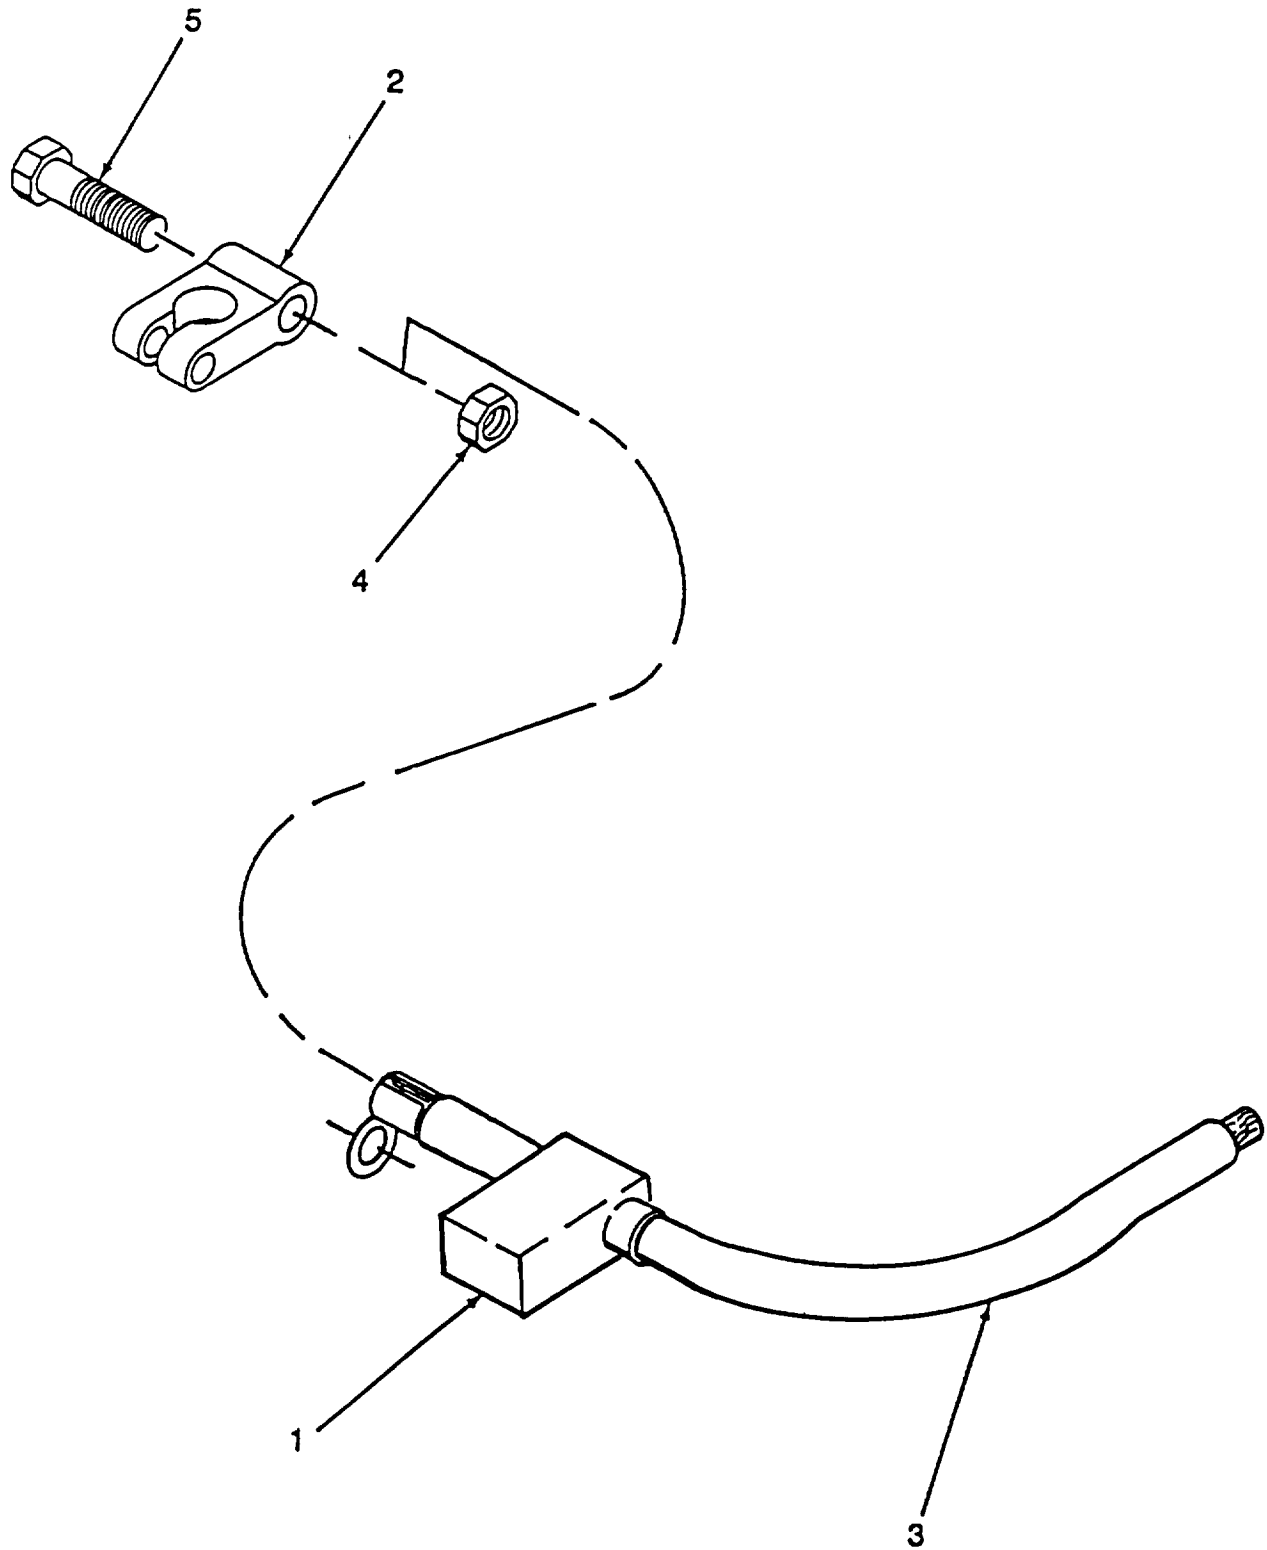

Figure 4-18. Battery Cable Repair
b. Repair. (Refer to Figure 4-18).